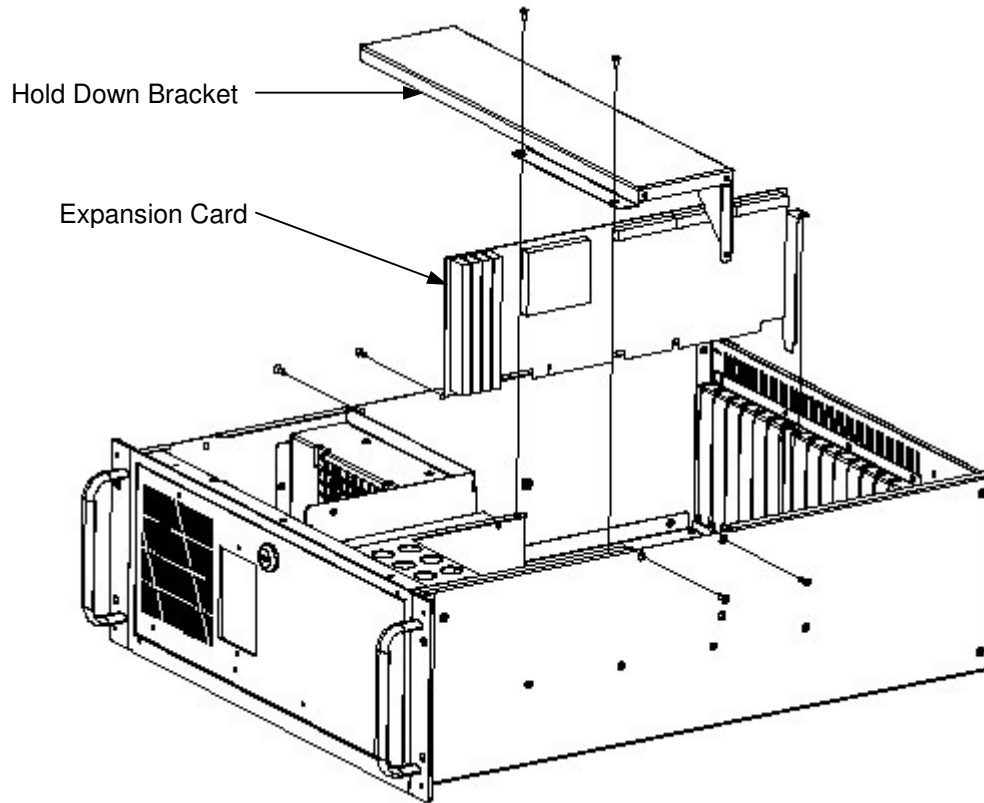

Figure 2-15. Installing ISA or PCI Boards
3. Unscrew and remove the hold-down bar from the unit (see Figure 2-15).